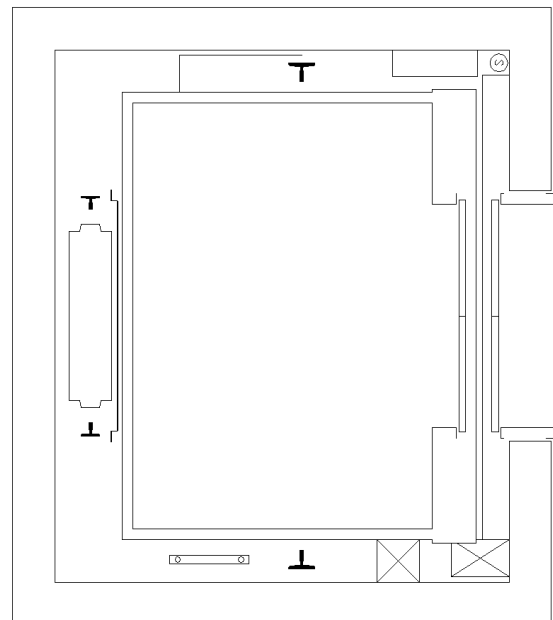

FIGURE 4-3.8 Elevator shaft drawing
16. Continue to use the **Join** command to cleanup all three sides of the elevator car as shown in Figure 4-3.8.
17. Select everything visible in Figure 4-3.8 and change its *Layer* to **0** (i.e., zero).